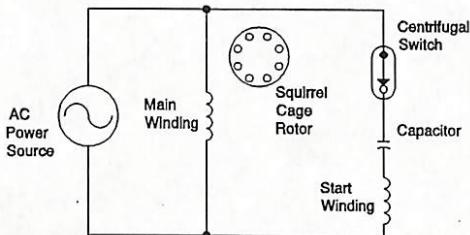

Figure 7.
**Capacitor-Start Induction Motors.** The Capacitor-Start Motors have 1 capacitor which is in series with the start winding and the centrifugal switch, as shown in Figure 7.